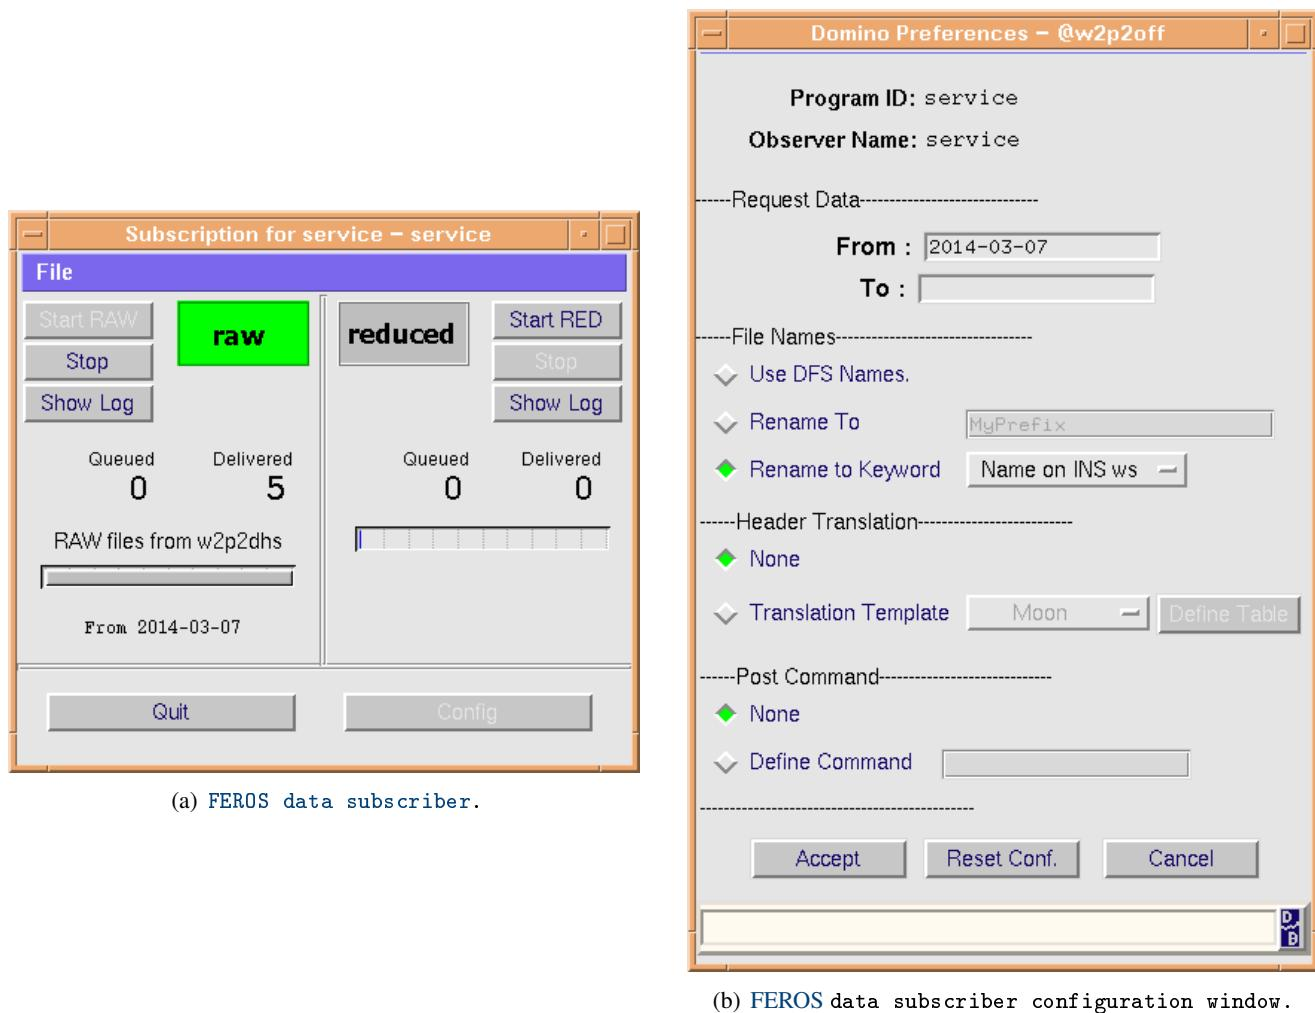

Figure 10.3: FEROS data subscriber.
- A. Stop **data subscriber** and **DRS** at the **DRS** computer (Fig. 10.3(a), p. 76).
- C1. Left click start **data subscriber** and configure it (Fig. 10.3(b), p. 76).